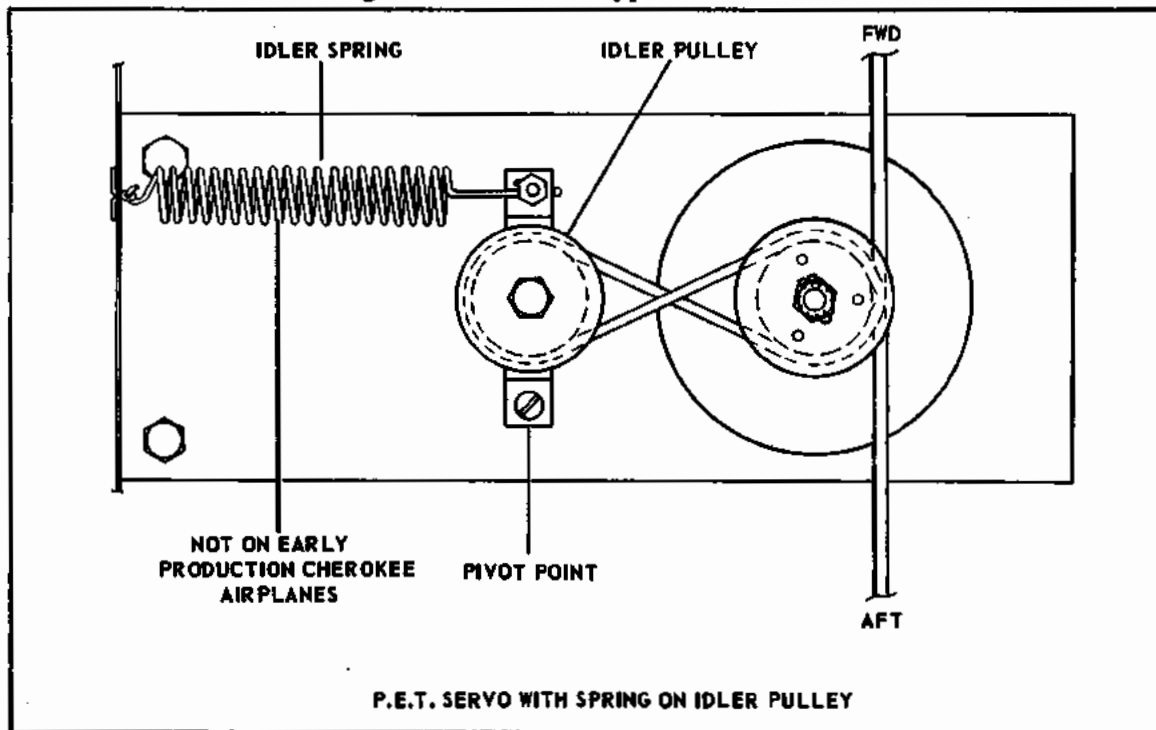

Figure 3-6. PA-28 Trim Servo Cable Routing
**3-19. INSTALLATION OF TRIM SERVO. (PA-28.) (Refer to Figure 3-6 or 3-7.)**
- c. On PA-28-150, PA-28-160 and PA-28-180 airplanes with Serial Nos. 28-2172 to 28-4377 inclusive; PA-28-235 airplanes with Serial Nos. 28-10606 to 28-10719 inclusive; and PA-28-140 airplanes with Serial Nos. 28-20002 and up, (refer to Figure 3-6), route the trim cable from the forward section of the airplane around the top capstan groove, around the aft side of the idler pulley located in the center of the servo, around the bottom capstan groove toward the aft section of the airplane until cable forms a figure eight. Proceed to step "e".